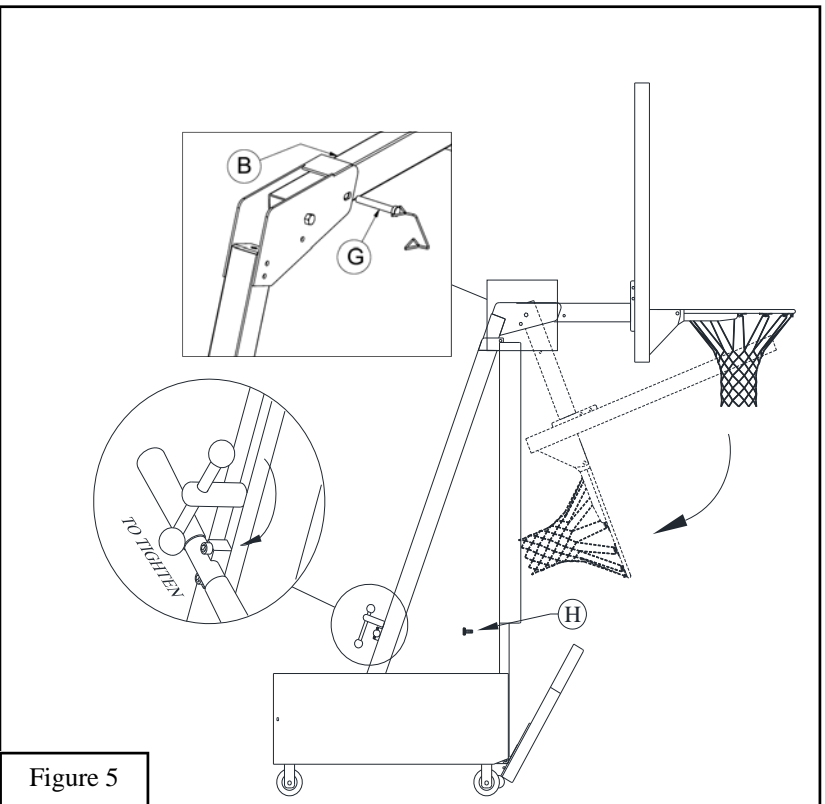

Figure 5
1. This basketball system is shipped partially preassembled. After removing the system from its shipping skid open the lower padded front panel by removing the *Lock Knob* (H) and pulling forward on the top of the lower pad to allow the unit to roll. See Figure 5.
9. To roll the system, unscrew the *Lock Knob (H)* to release the lower front padding. This will lower the unit to the portable position. To lock in place push padding to the original position and tighten the *Lock Knob (H)*. See Figure 5.
10. For storage or transport through a normal 78" tall double doorway: remove the *Locking Pin (G)* then pivot the *Extension Arm (B)*, *Backboard (D)* and *Rim (E)* downwards. Store *Locking Pin (G)* in the *Extension Arm (B)*. See Figure 5.